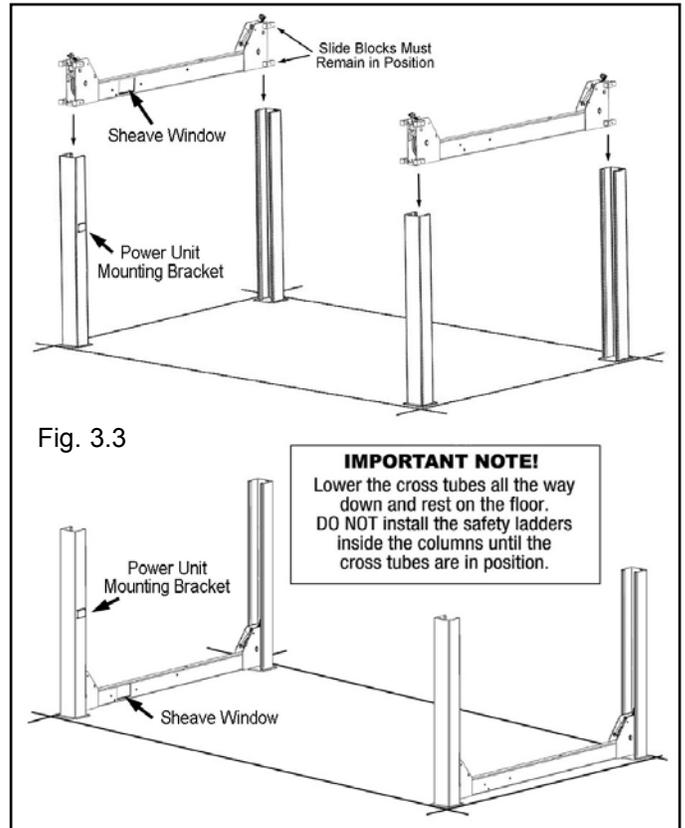

Fig. 3.3
3. Using a forklift or crane, raise the CROSS TUBES (making sure the Plastic Slide Blocks are still in position) and drop down into the top of the COLUMNS. NOTE: The sheave windows should be positioned inward and adjacent the Power Unit Column. (See Fig. 3.3)